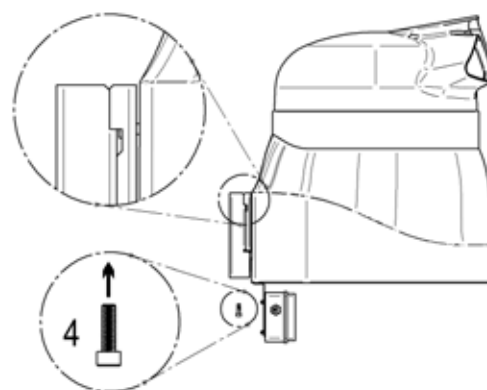

Fig. 8 - Rear bracket safety screw.
**Check that the two brackets are correctly coupled on both sides before leaving the humidifier (see detail on Fig. 8).**
cidentally (see Fig. 8).